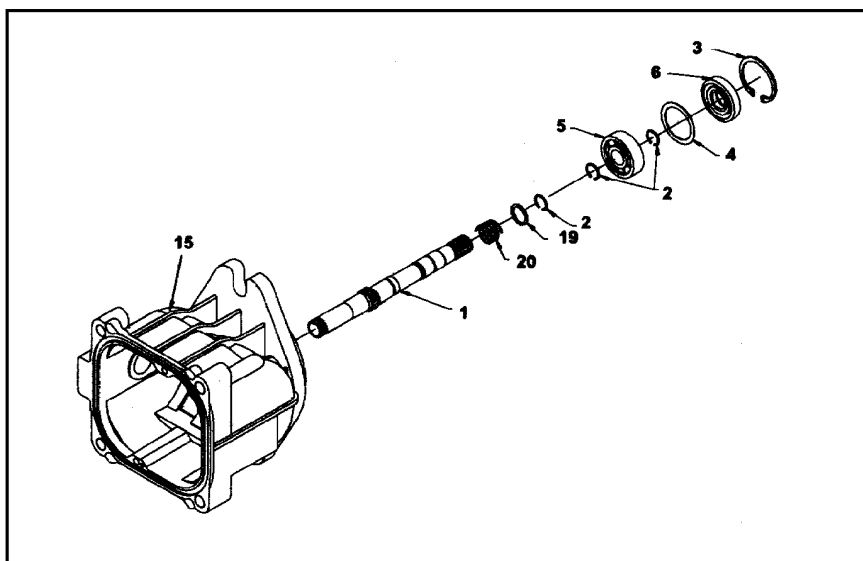

Figure 15
- 1) Install shaft assembly (1) into the housing (15) bore. Light tapping with a rubber mallet may be necessary on the input shaft (1) once the bearing is aligned with the housing (15) bore. Rotate the input shaft (1) to insure free movement.
- 2) Install spacer (4).
- 3) Install the lip seal (6).
- 4) Install the retaining ring (3). **Figure 15**